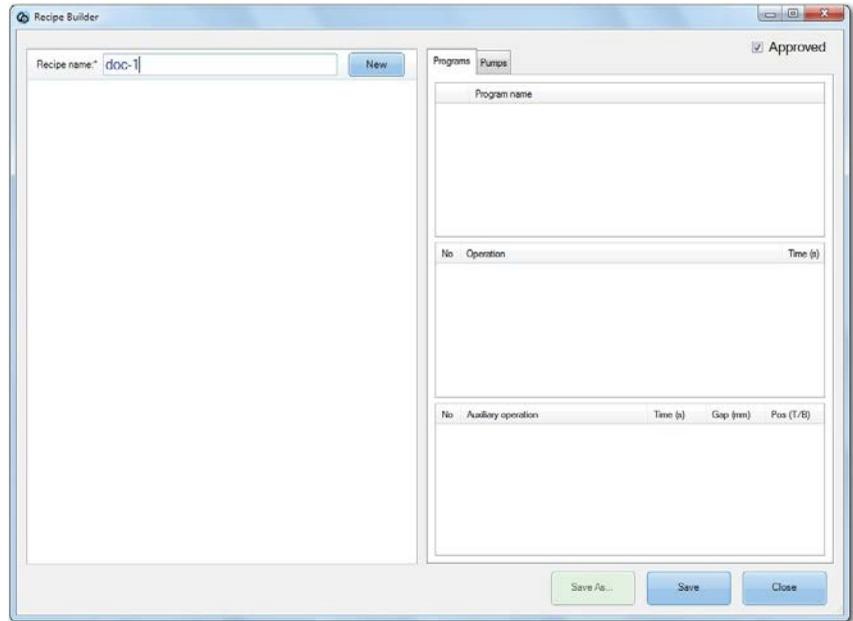

FIGURE 3-25: Creating a new recipe
3. On the Recipes page, click **New**. The Recipe Builder page opens. See Figure 3-25.